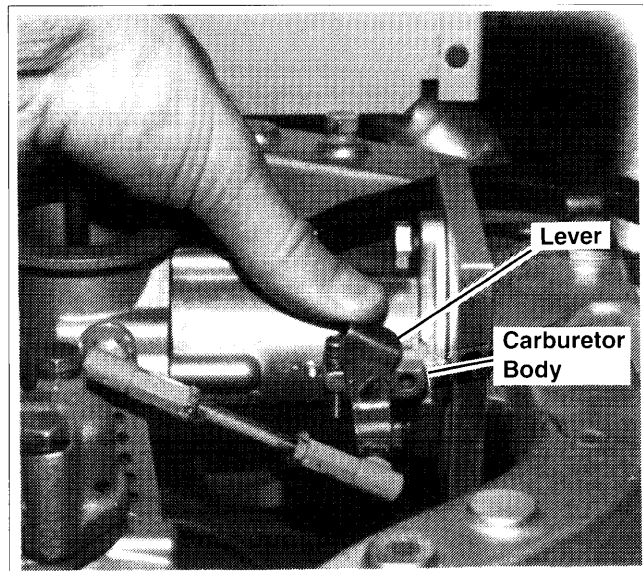

Figure 4. Carburetor Linkage Adjustment
6. Reconnect breather line and governor link. Adjust linkage, if necessary, to obtain a 1/16 in. (1.6 mm) gap between throttle lever and carburetor body when lever is in relaxed position. See Figure 4.